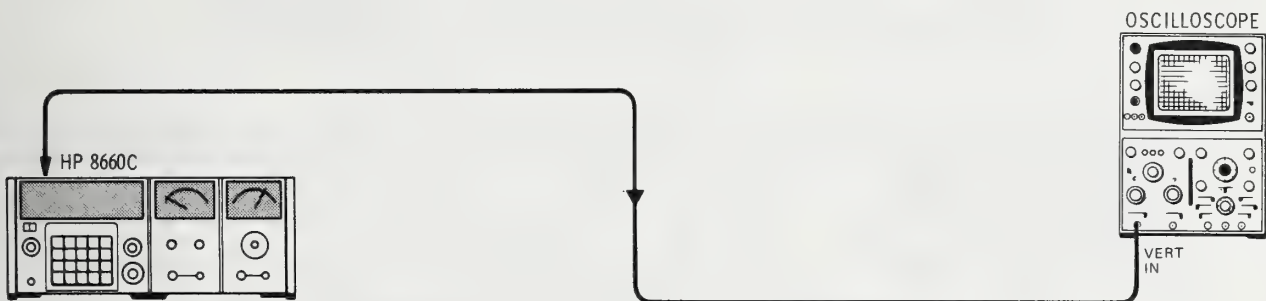

Figure 5-7. Oscilloscope Level Checks Test Setup
a. Check the outputs listed in Table 5-4 for the levels shown (see Figure 5-7).